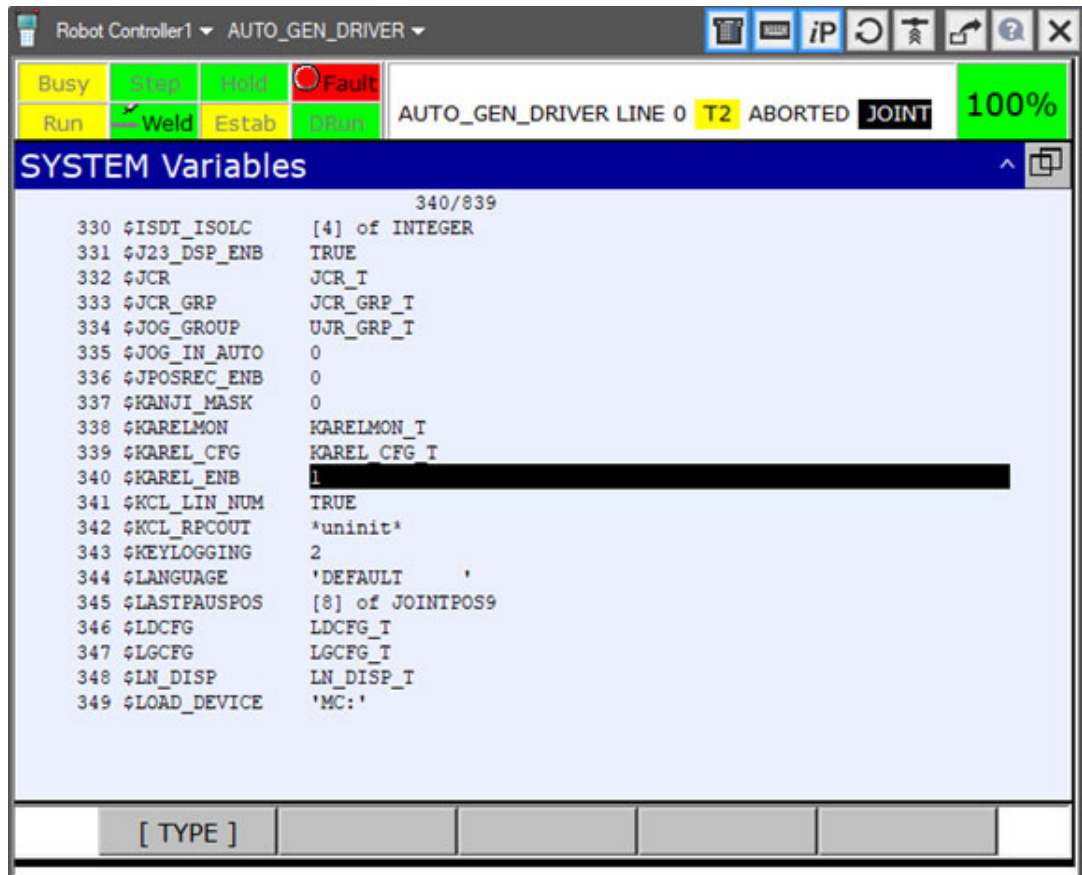

Figure 203: Robot System Variables (\$KAREL_ENB)
3. On the robot teach pendant, navigate to the system variable, \$KAREL_ENB. Make sure this is set to 1. If it is set to 0, change it to 1 and cycle power on the controller. See Figure 203 (below).